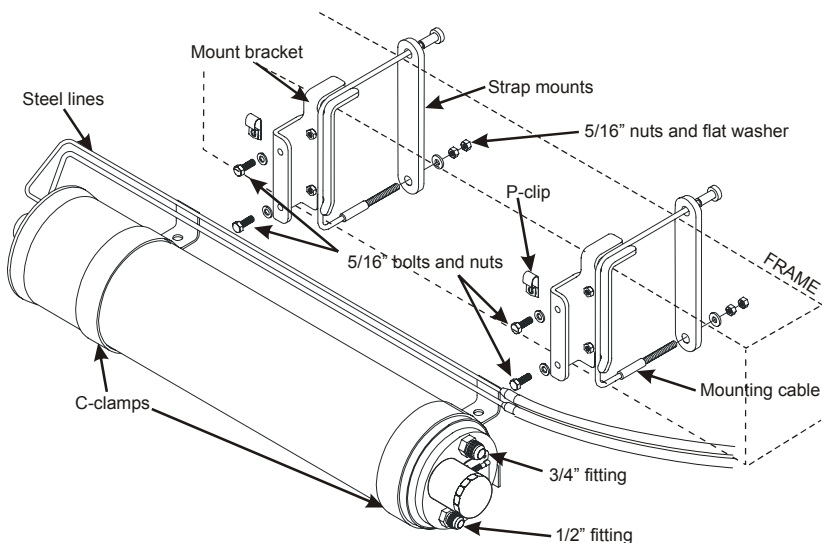

Figure 2.1
- ☐ Route the cable through the cable guide slot at the top of the tank strap mount, behind the steel lines, through the guide slot at the bottom of the tank strap mount and through the bottom hole in the flat bar (Figure 2.1).